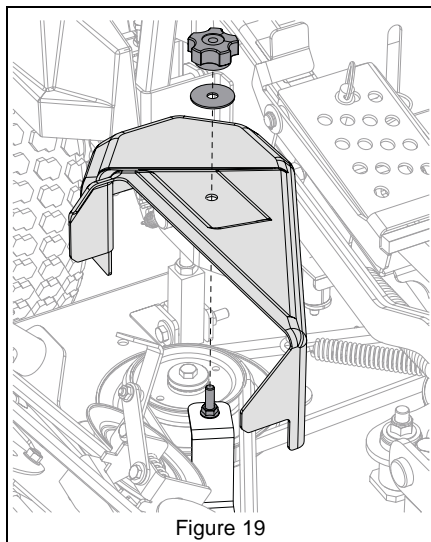

Figure 19
1. Secure belt cover to deck using one 1 1/2" washer and one clamping knob. See Figure 19.